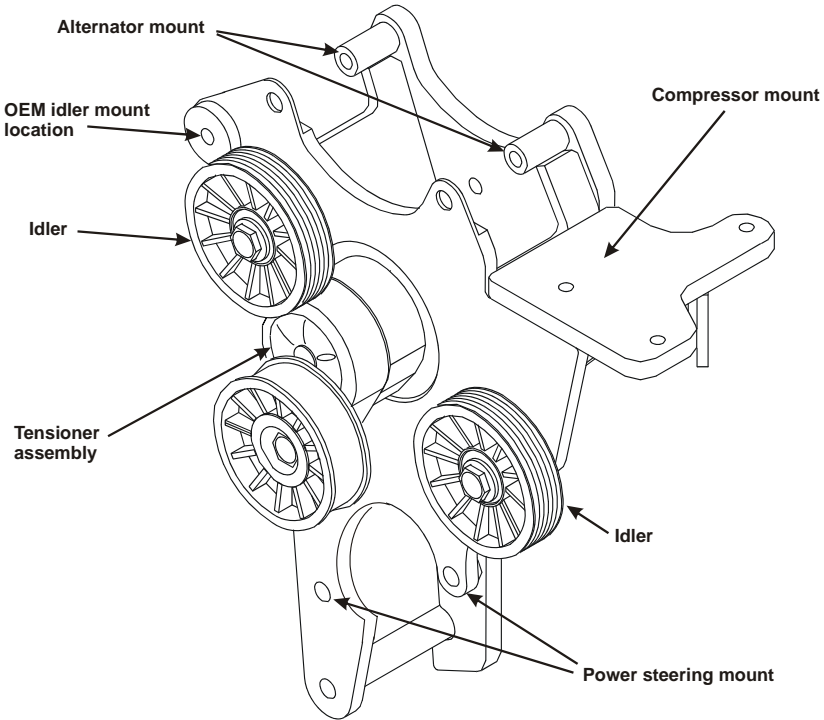

Figure 3.2
- Remove the idlers and the complete tensioner assembly from the main bracket (Figure 3.2).